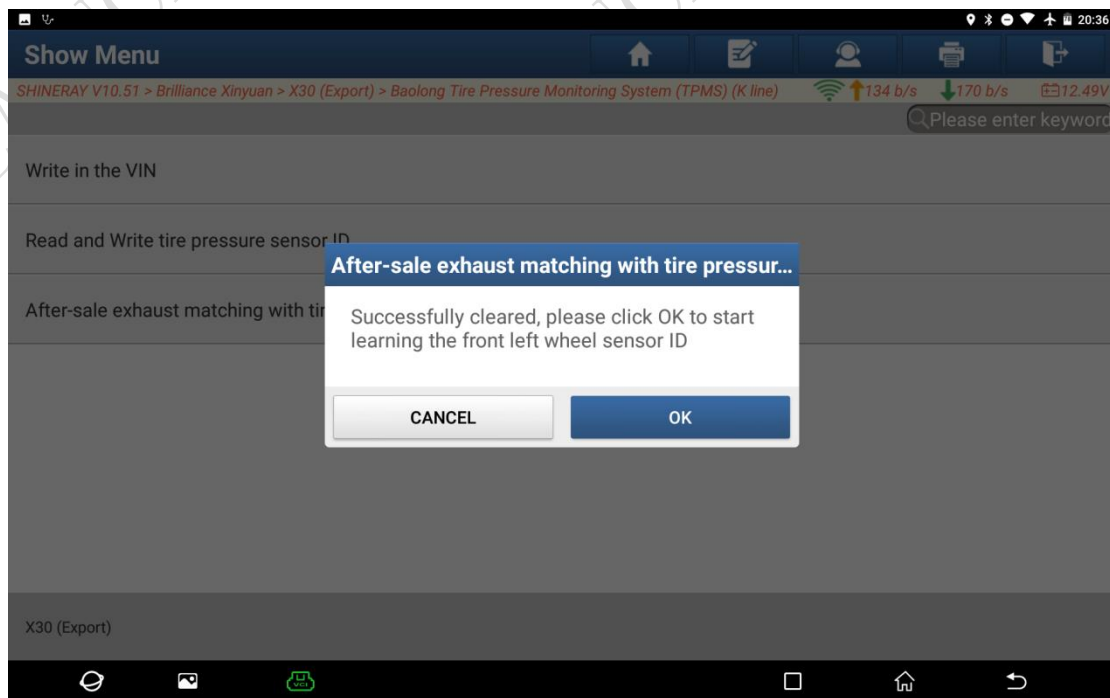

Figure 8
8. Click [OK] to start learning the FL wheel sensor ID, as shown in Figure 8.